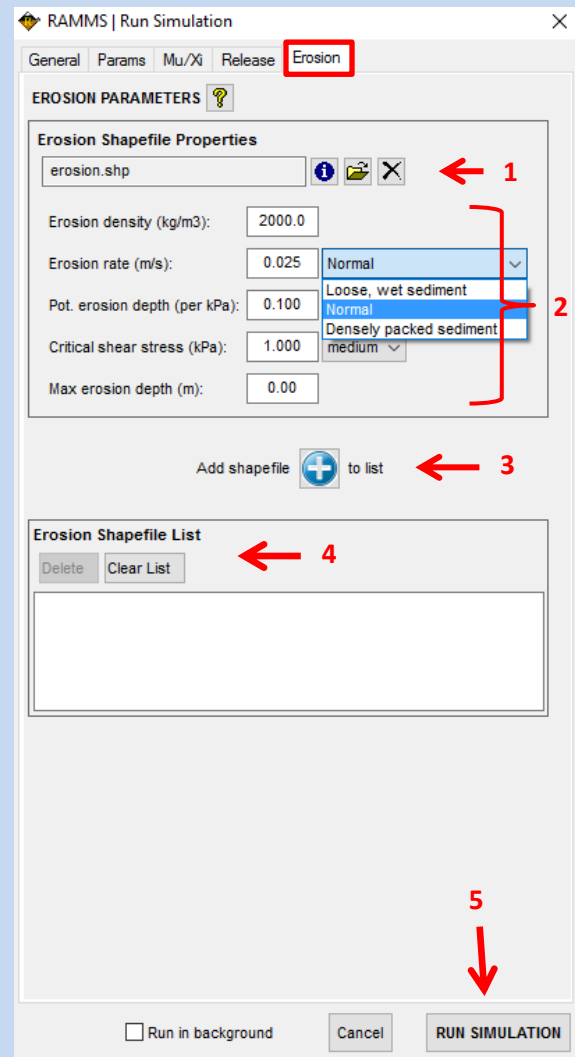

Figure 3.51: Erosion Tab
- Click run simulation (Figure 3.51)